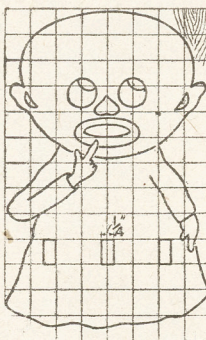
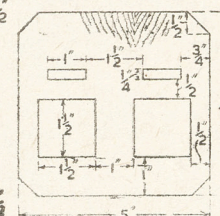

Fig. 2—The figure
Fig. 4—The base
Back at the drum now cut two pieces of strong tin as (A) Fig. 2 (clock spring with the temper taken out of one end would be the best). These must be so fixed that they slide and press against the tin bands, and they may have to be fitted differently on different cranes. From their base two cables are led to a
The figure to be cut from a sound piece of wood  $\frac{1}{2}$  in. thick, is indicated in Fig. 2. First cut the wood to size  $6\frac{1}{2}$  ins. long by  $4\frac{1}{2}$  ins. wide, and carefully divide one face into  $\frac{1}{2}$  in. squares, as indicated in Fig. 2.
It is now a simple matter to draw the figure on the wood from the outline given. Take care when marking off and cutting out the three mortise slots,  $\frac{1}{2}$  in. by  $\frac{1}{2}$  in. given in position in Fig. 2. Only the outline of the figure is cut out, since the hands, eyes, nose, mouth, and ears are treated with enamel paint.
The upright for the stand is indicated in Fig. 4, and this is made in wood  $\frac{1}{2}$  in. thick. Cut the wood to size 10 ins. long by 5 ins. wide, and angle off the top corners  $\frac{1}{2}$  in. 45 degrees, as shown. On the bottom edge carefully mark off the two tenons, as indicated, and cut them to a good fit in the mortise slots already made in the base. Mark off and carefully cut the three mortise slots  $\frac{1}{2}$  in. by  $\frac{1}{2}$  in.,
as clearly indicated (see Fig. 4).
First cut the three pieces of wood  $2\frac{1}{2}$  ins. long by 2 ins. wide, and carefully cut the tenons on the centre of each end, making them  $\frac{1}{2}$  in. wide and a good fit in the mortise slots already cut in the figure indicated in Fig. 2, and the upright Fig. 4. Having made the items see they are smooth and nicely finished, and then fix together with glue.